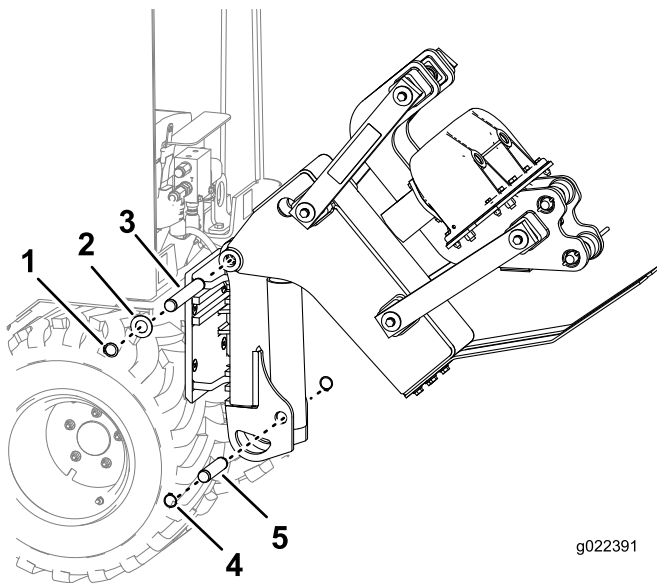

Figure 5
1. Attach the plow assembly to the top of the pivot assembly, and secure them using the lift pin, 2 washers, and 2 snap rings (Figure 5).
2. Secure the bottom of the plow assembly to the pivot assembly using the clevis pin and 2 snap rings (Figure 5).